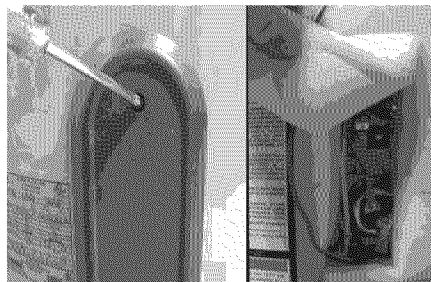

Figure 45 - Element Access Panel/ECO Compartment
- 3 Remove the upper access panel on the water heater and carefully fold back the insulation and plastic element/ECO cover (See figure 45 on page 32).